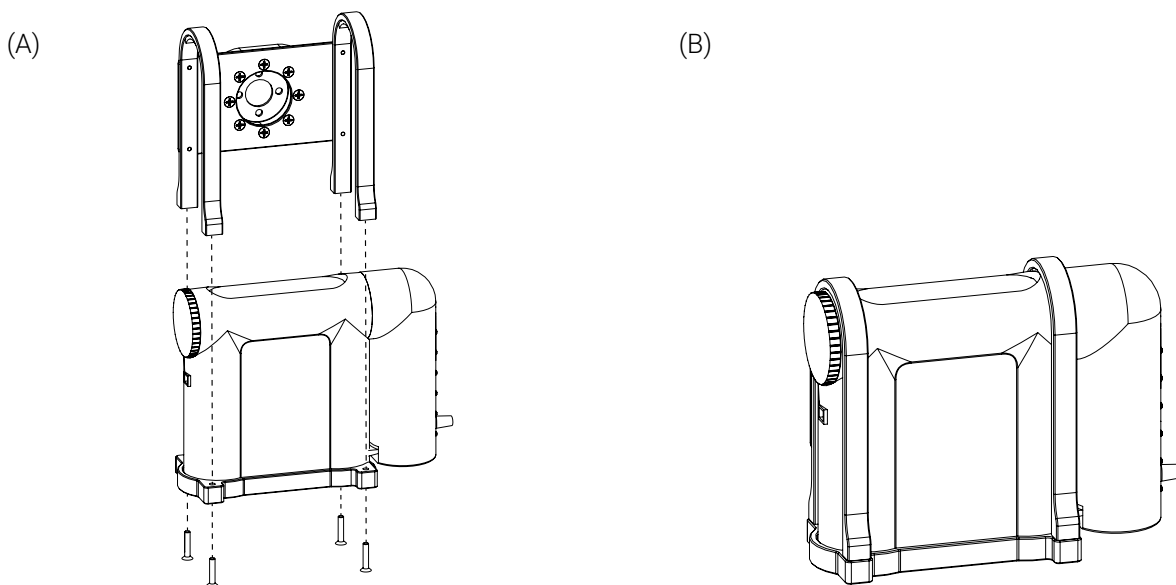
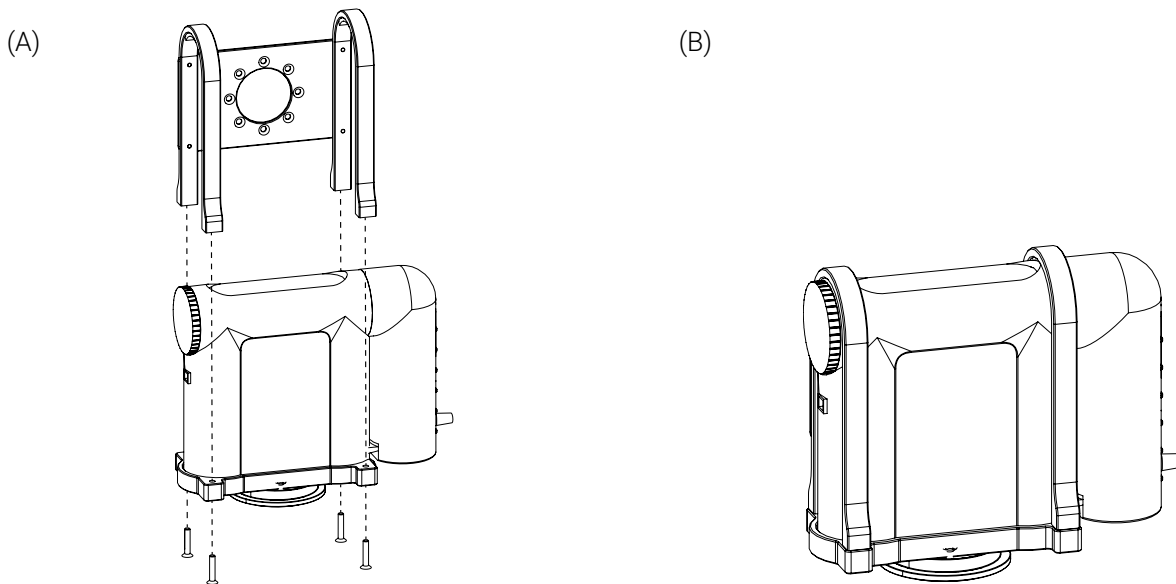

Figure 17: Medical device installed in the support bracket with a back anti-rotation micro disc
Figure 18: Medical device installed in the support bracket with a bottom micro disc
4. Place and hold the retaining frame over the suction unit, then tighten the four (4) screws using a Phillips-head screwdriver (Figure 17 and Figure 18).